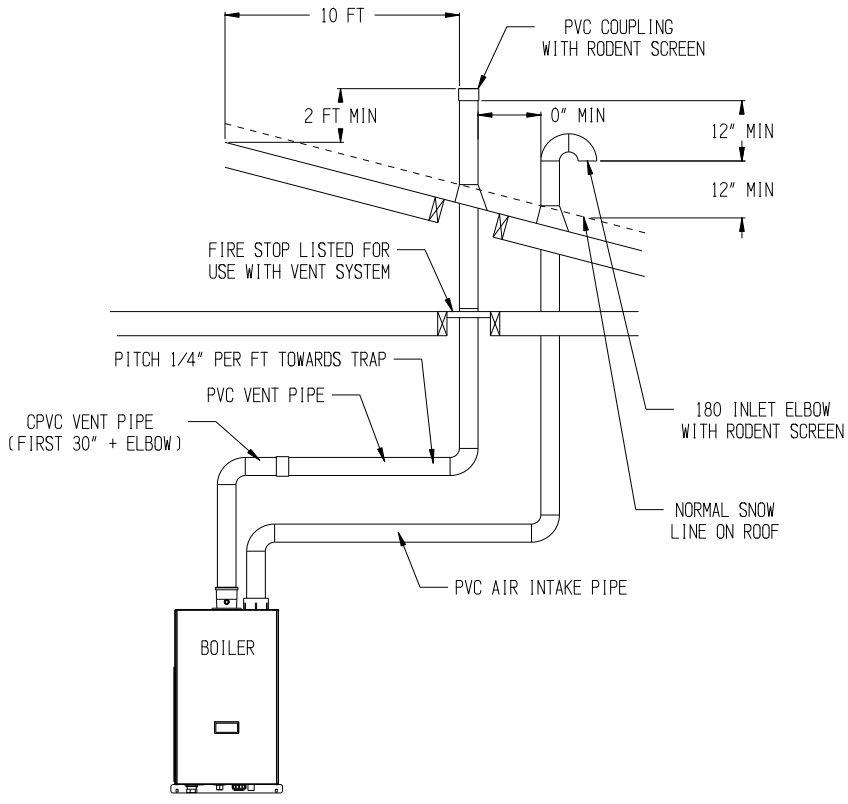

FIGURE 7.15: VERTICAL CPVC/PVC VENTING, (VENT OPTIONS 10 & 11, TERMINAL OPTION H)
- For terminal option H, maintain at least 12" of vertical separation between the exhaust and intake opening as shown in Figure 7.15 and 7.17.